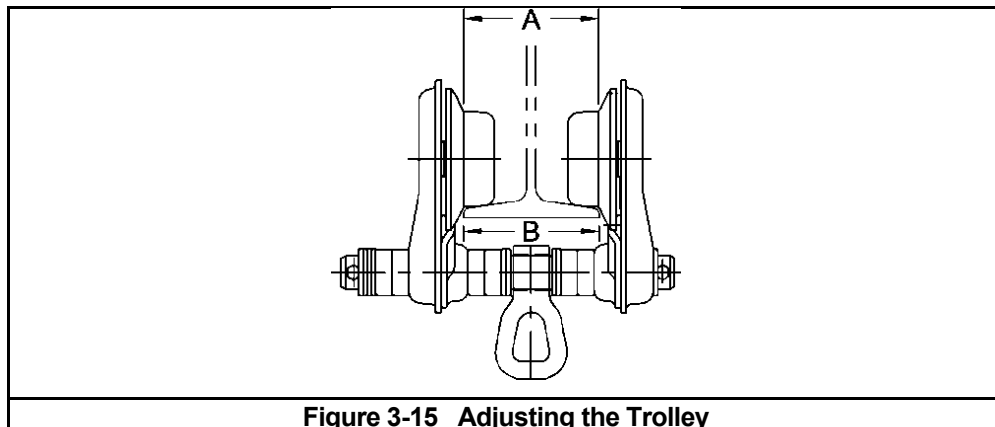

Figure 3-15 Adjusting the Trolley
- 3) Referring to **Figure 3.016**, **Table 3-4**, **Table 3-5**, and **Table 3-6** install the inner adjusting Spacers and Suspender on the Suspension Shaft. Use all of the Spacers provided with the trolley. If the beam width is not listed in the Table, use the next size smaller and make adjustments, refer to **Figure 3-15**.
- 1) Refer to **Figure 3-15**.